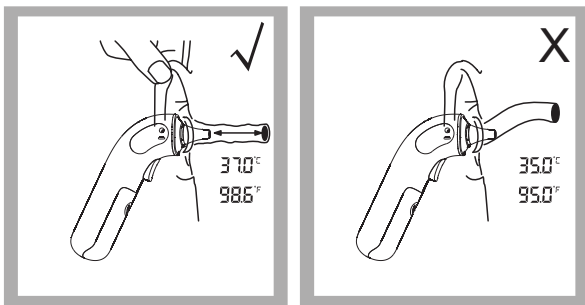

Figure 3
3. Insert the probe along the ear canal as deep as possible into the ear as depicted in Figure 3. Then press the *Test Button* once to start the measurement. A short beep will sound approximately 1 second after the *Test Button* is activated. This signals the end of the process as results are displayed on the LCD screen.